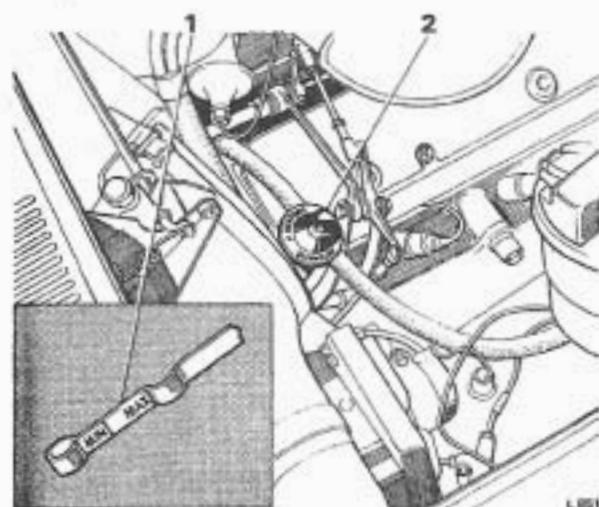

FIG. T131 CHECKING THE OIL LEVEL
The transmission dipstick and filler tube are situated on the right-hand side of the engine and are easily accessible when the bonnet is raised (see Fig. T131).
The level of the transmission fluid should be checked at every engine oil change. The full 'MAX' and low 'MIN' marks on the dipstick are approximately $\frac{1}{4}$ pint (Imp.), 1 pint (U.S.), 0.45 litre apart and should be used to determine the correct fluid level at the normal operating temperature of 76.7°C., (170°F.). Careful attention to transmission fluid temperature is necessary because the correct fluid level at low operating temperatures will be below the 'MIN' mark on the dipstick (see Fig. T131), and the correct fluid level at higher operating temperatures will rise above the 'MAX' mark. Fluid level must always be checked when the car is on an even, level surface and with the engine running to ensure that the converter is full. To determine the correct fluid level proceed as follows.
4. With the engine running, add fluid as required to bring it to the correct level (see Fig. T131).
The transmission sump should be drained every 12 000 miles (20 000 km.) or 12 months, whichever occurs first. Fresh fluid should be added to maintain the correct level on the dipstick (see *Fig. T131*).